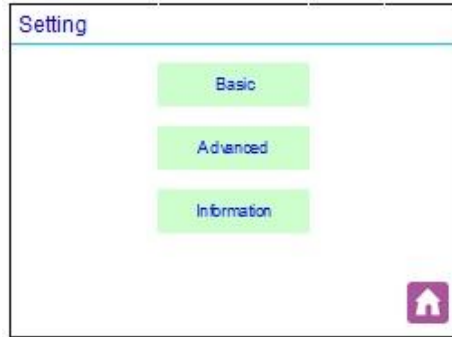

Figure 12 - Settings Screen
- a. Enter into the Settings screen as shown in Figure 12.